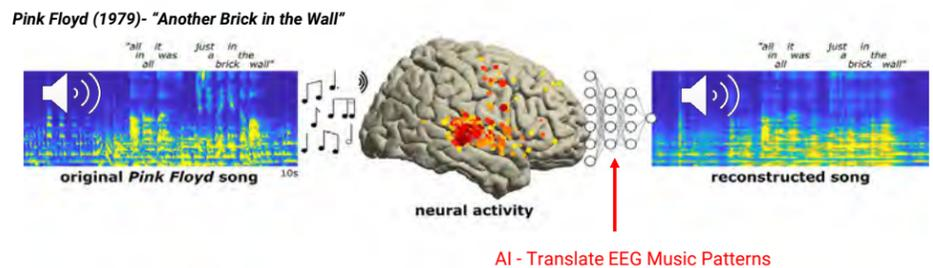

Figure 1. Bellier et al. (2023) uses AI algorithms to decode auditory stimuli and reproduce "Another Brick in Wall".
Presumably, the Russians had cracked the code at reading brain waves and developed this technology to control the aircraft with the pilot's mind. Forty years ago, the thought of this technology was science fiction. Fast forward to 2023 and recently a group from the University of California Berkley1 used predictive artificial intelligence (AI) modeling of auditory stimuli to reconstruct the classic song "Another Brick in the Wall" (figure 1). This act demonstrated the plausibility of using brain waves to determine real-time cognitive activity. Indeed, applications of AI regarding aerospace medicine are broad and have the potential to dramatically improve safety by recognizing hazards and preconditions that may predispose aviators to mishaps. Some of the ways AI may assist aviators in the cockpit include predictive analysis, real-time monitoring, alert systems, sensor fusion, machine learning for pilot training, data analysis and accident investigation.